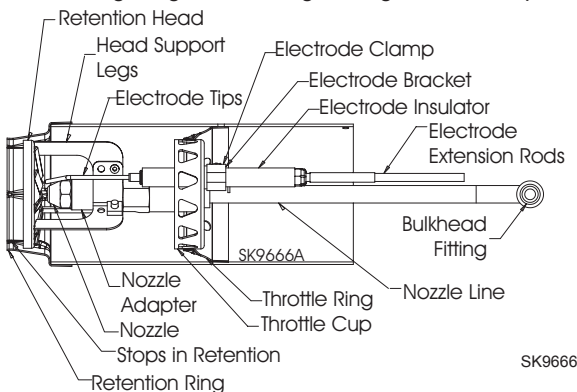
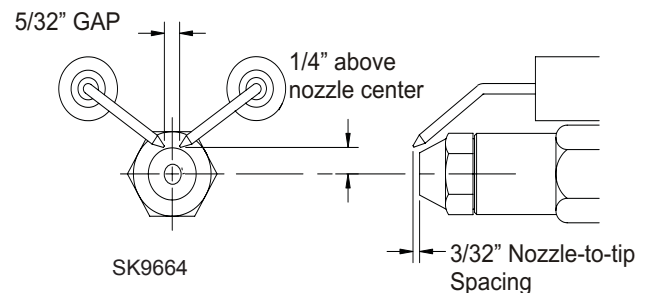
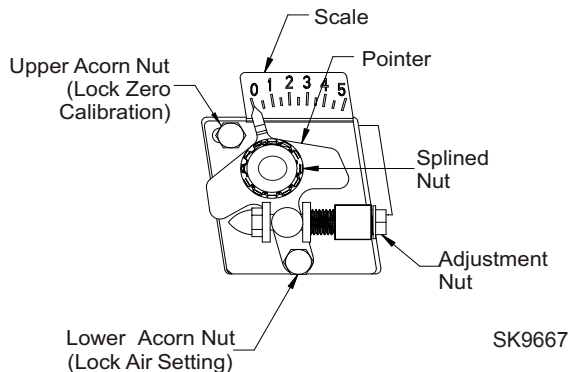

Figure 1 – Air Tube Assembly
Figure 2 – Electrode Tip Gap Setting
Figure 4a – Older Style Head/Air Adjustment Plate
2. Use a 3/4" open-end wrench to hold the nozzle adapter. DO NOT attempt to remove or replace the nozzle without securing the adapter, as nozzle alignment could be seriously affected. Refer to Figure 1.
9. Carefully check and realign the electrode tips after replacing a nozzle, ensuring the electrode settings comply with Figure 2.
10. If the head was removed when replacing the nozzle, carefully reconnect the head to the nozzle adapter. Make sure to align the key in the support leg with the keyway in the nozzle adapter and to butt the head support to the nozzle adapter shoulder, see Figure 1.
Check the electrode tip settings, as shown in Figure 2. If necessary, adjust by loosening the electrode clamp screw (Figure 1) and slide/rotate the electrodes as necessary. When the adjustment is complete, securely tighten the clamp screw.
On burners with factory-installed air tubes, the zero calibration has been factory set. Make sure the retention head (Figure 1) is securely against the stops in the retention ring when the adjustment plate pointer is at "0" (Figure 4a or 4b).
5. Referring to Figure 1, slide the nozzle line assembly forward until the retention head engages the fixed stops in the retention ring at the end of the air tube.
7. Loosen the splined nut and lower acorn nut approximately one turn. (DO NOT loosen the upper acorn nut. This is used only for setting the zero adjustment.) (See Figure 4a or 4b.)